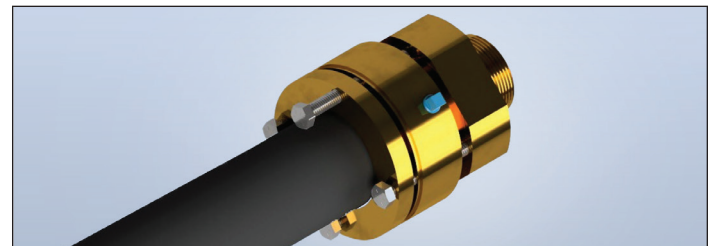

Figure: 1-10
12. Slide the Rear Flange and Flange Body forward to trap the Split Rings. While applying forward pressure to the Rear Flange and Flange Body, slide the Front Pipe Flange onto the Flange Body Ledge. Insert and align Hex Bolts, then partially tighten to allow the fitting to swivel (Figure 1-10).